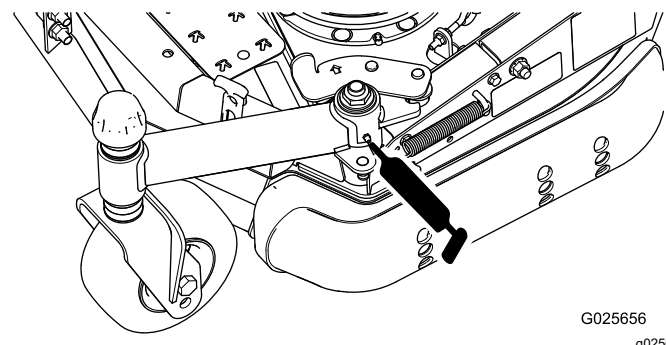

Figure 21
- Folding caster arm pivot (1) (Figure 21)